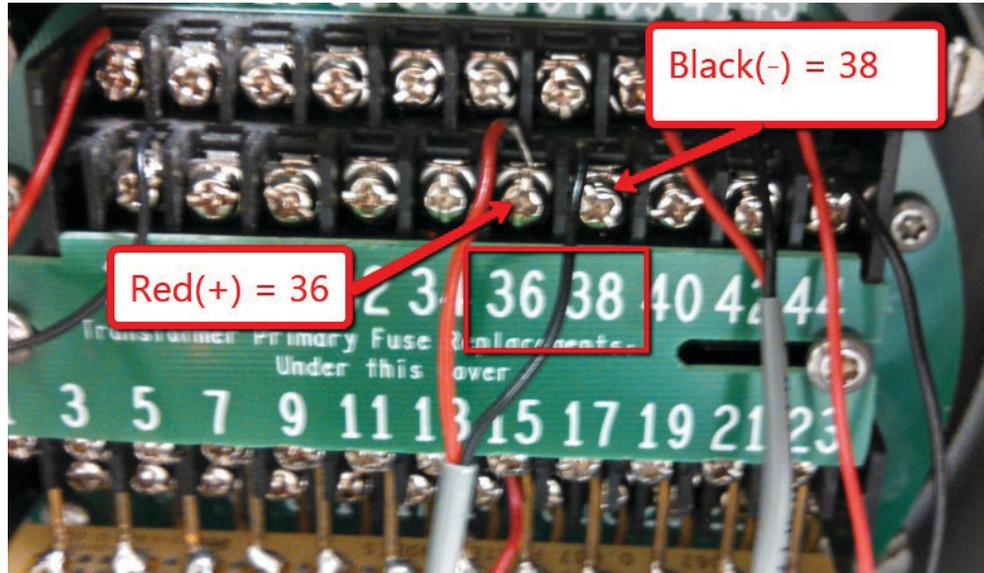

Figure 3 STC Pins 36 and 38
3. Connect RS485 cable to STC pins 36 and 38. See Figure 3.